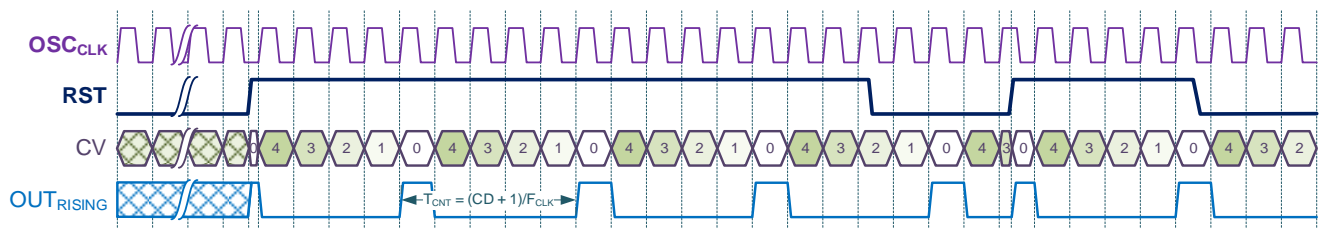
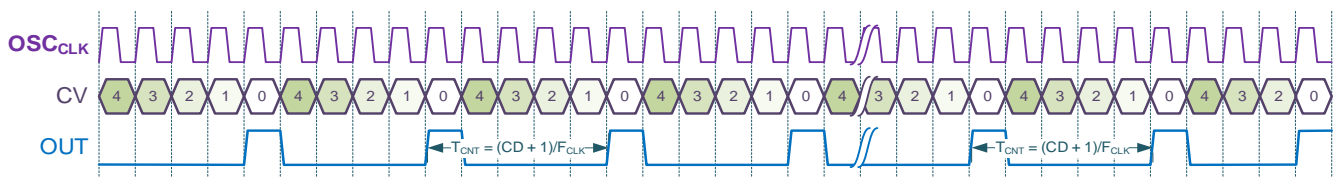

Figure 9.8. Counter Mode Timing Diagram (TMR0, TMR1, Rising Reset, Forced OSC, Auto OSC)
Figure 9.13. Counter Mode Timing Diagram (TMR3, Auto OSC, Forced OSC)
In Counter mode, the TMR divides input clock signal by the value determined by the Control Data, input clock signal, and selected divider value. The output of the TMR goes HIGH every time when the Counted Value (current value of the counter) is equal 0. The RST of the TMR resets the Counted value to 0 by one of the following events: rising edge, falling edge, both edge, high level. The timing diagrams of this mode are shown in Figure 9.8...Figure 9.13.
- Counter (Figure 9.8...Figure 9.13)